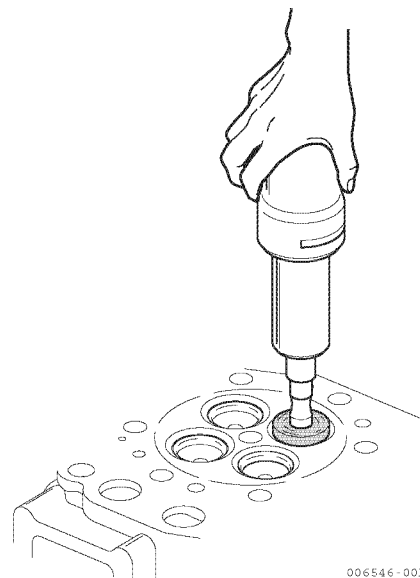
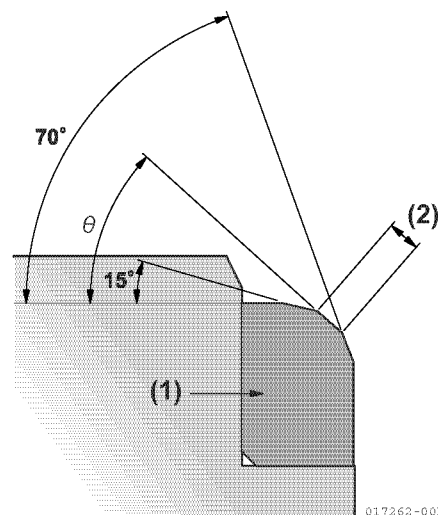

Figure 5-66
Figure 5-67
- Use a seat grinder to make the surface even. As the valve seat width will be enlarged, first use a 70° grinder, then grind the seat to the standard dimension with a 15° grinder (**Figure 5-66**) and (**Figure 5-67**).